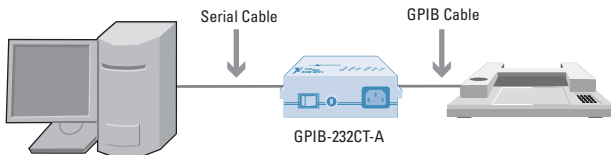

Figure 2. G Mode Application Example
**G Mode** – Figure 2 shows the GPIB-232CT-A used in the G mode. In G mode, the GPIB-232CT-A makes a serial device appear as a GPIB Talker/Listener to the Controller. The GPIB-232CT-A recognizes two addresses in G mode – it treats one as its GPIB address and the other as the serial device address. When the GPIB-232CT-A receives its GPIB listen address, it treats the data it receives as a programming message. When the GPIB-232CT-A receives the serial device listen address, it simply passes the data it receives to the serial device. When the GPIB-232CT-A receives its GPIB talk address, it sends out status information. When the GPIB-232CT-A receives the serial device talk address, it sends out the serial data received from the device. You can program the GPIB-232CT-A to assert SRQ under a variety of